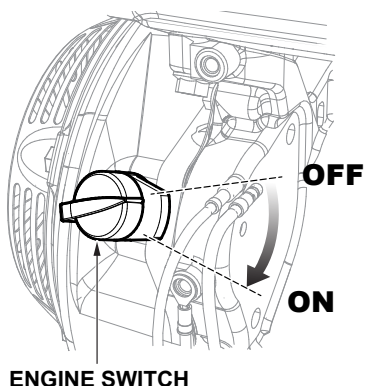

Figure 24. Engine ON/OFF Switch (ON)
5. Place the engine ON/OFF switch in the **ON** position (Figure 24).